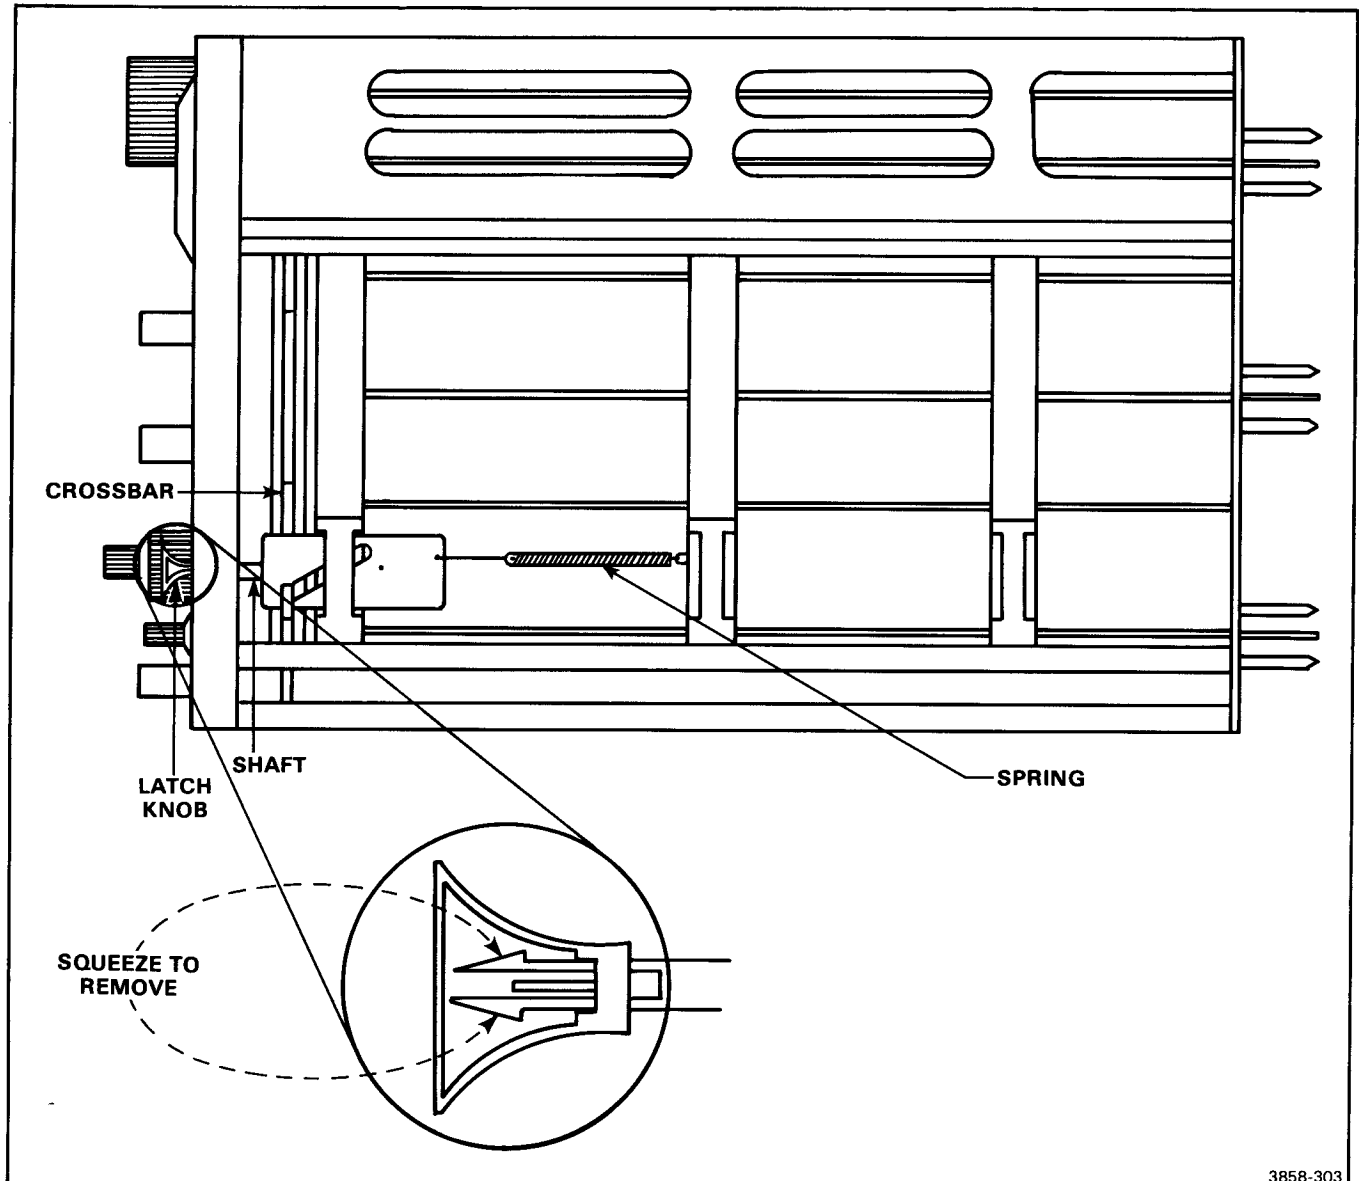

Figure 3-7. Latch assembly.
2. Using needle-nose pliers, squeeze the latch fingers to release the latch knob. Lift the latch knob from the 7D20. See Figure 3-7.